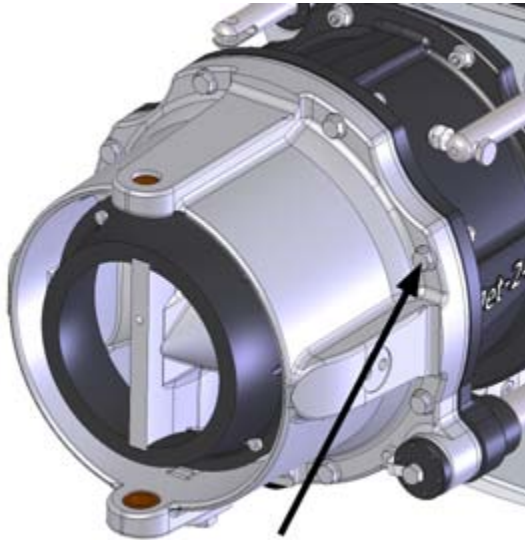

Figure 91. Stator fastening screws
2. Open the stator fastening screws (8 pcs, figure 91).
2. Open the six fastening screws of the stator (8 pcs, figure 91).